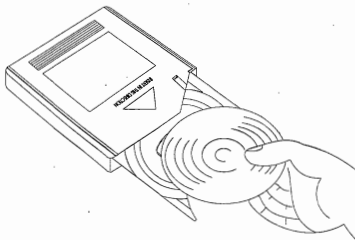

Fig. 14: Inserting a CD
- Place a CD **label side down** in the circular depression in the tray. (See Figure 14.)